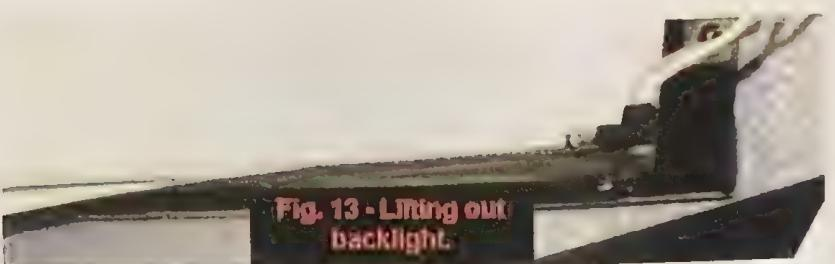

Fig. 13 - Lifting out
- 12) The backlight is seated on both sides with plastic/rubber ends. The Florescent tube runs underneath the paper, and attached to both ends is a connecting wire that runs along the other side of the paper. Lift the backlight out as in Figure 13. The tube may be cracked on one end, and you may see under the tube. Use caution when taking this out, as the tube is fragile.